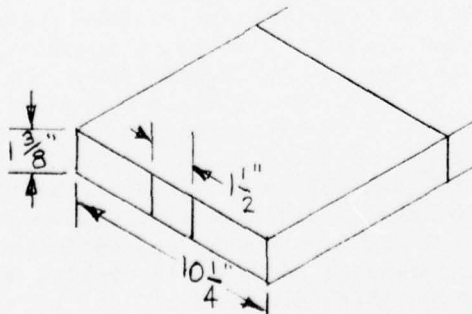

FIGURE 9 - CATHODE SCREEN ASSEMBLY
8. Cut a $1\frac{3}{8}$ " x $1\frac{1}{2}$ " square out of the screen from the center of the bottom edge as seen in Figure 9.